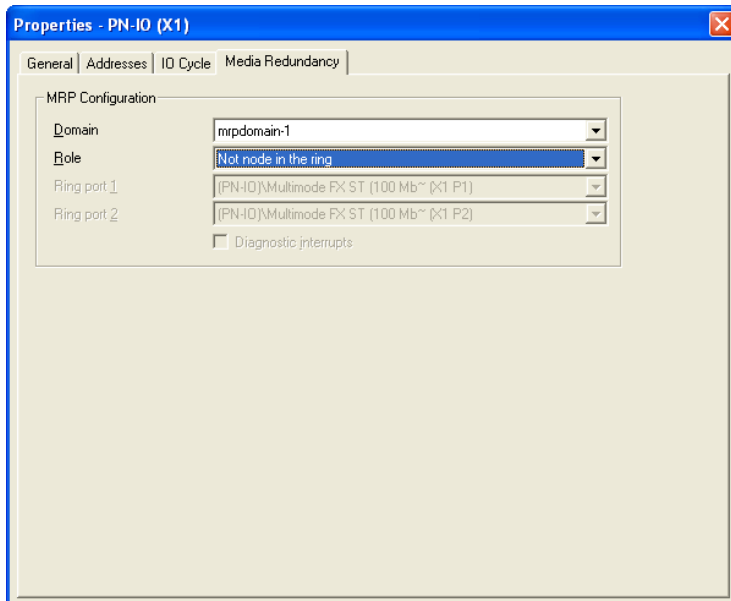

Figure 15: Dialog for entering the Media redundancy
- Under MRP Configuration/Domain , select the required MRP domain for the node (see figure 15).
- Under MRP Configuration/Role , select the required role of the node in the ring (see figure 15).